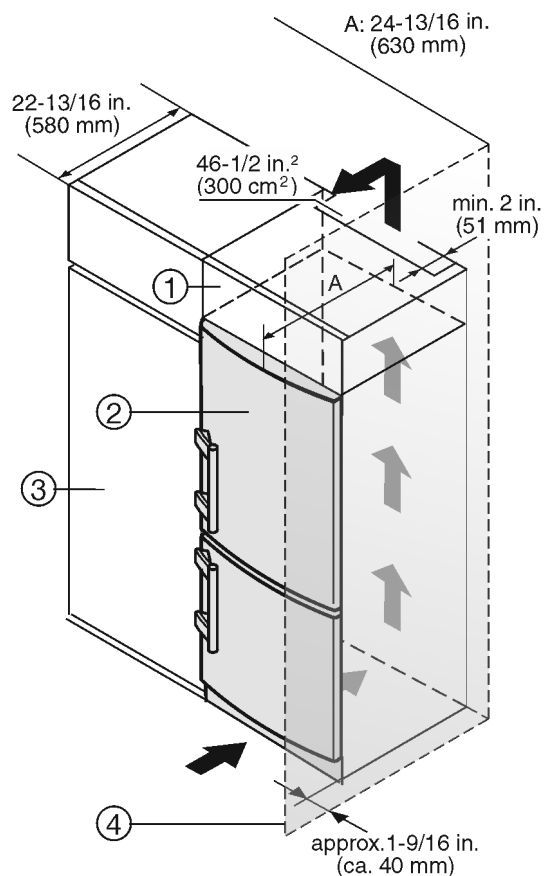

Fig. 11
- (1) Top cupboard
- (2) Appliance
- (3) Kitchen cabinet
- (4) Wall
The appliance can be built into the range of kitchen units. To bring the appliance Fig. 11 (2) up to the height of the fitted kitchen units, a suitable top cupboard Fig. 11 (1) can be added above the appliance.
When converting kitchen cabinets (max. depth 22-13/16 " (580 mm)) the device can be set up directly beside the kitchen cabinet Fig. 11 (3). The appliance door projects (34 mm) at the side and in the center of the appliance (50 mm) from the front of the kitchen cabinet. This allows it to open and close properly.
If the appliance is installed with the hinges next to a wall Fig. 11 (4), the gap between the appliance and the wall must be at least 1-9/16 " (40 mm). This is how far the handle protrudes when the door is open.